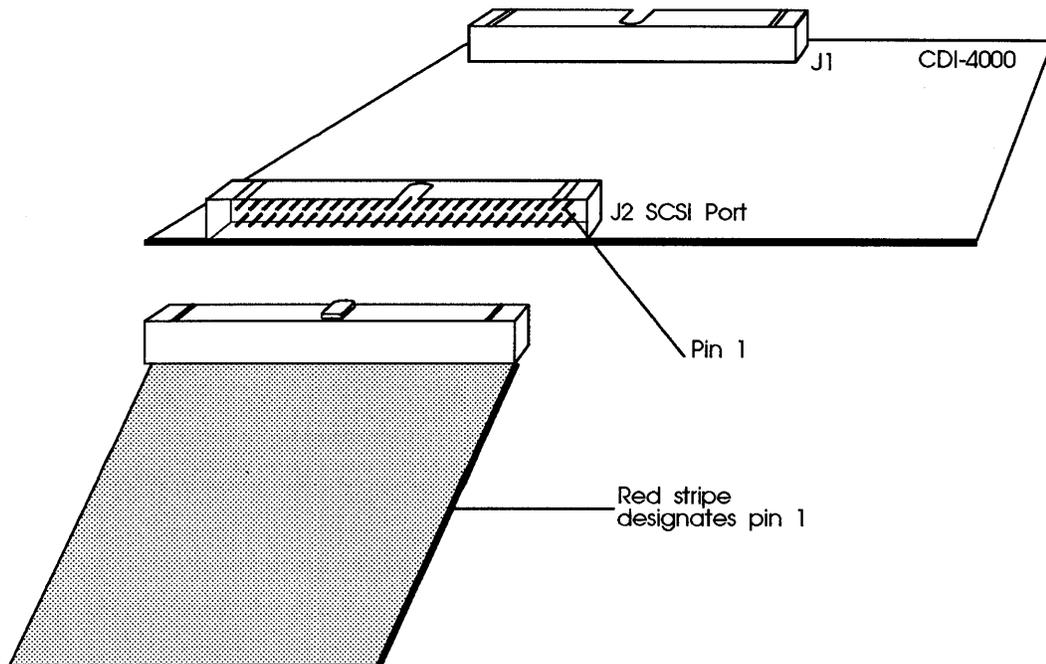

Figure 3-10: SCSI port (J2) cable connection
- 5 Connect one end of a SCSI cable to the CDI-4000 at J2, SCSI port (see Figure 3-10).